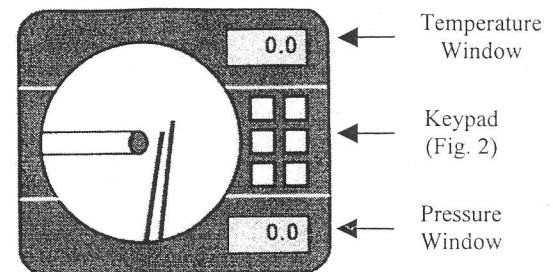

Figure 1
6. Locate Control Panel (Fig. 1)